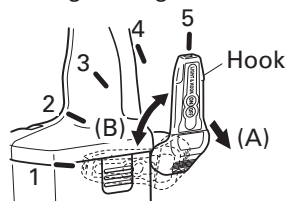

Fig. 5
- Pull out the hook toward you in the direction of arrow (A) and turn in the direction of arrow (B). (Fig. 5)